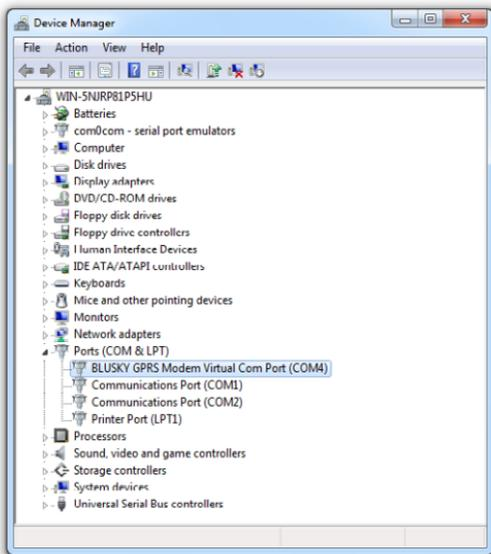

Figure 7
- **Local Configuration with Serial Communication:** First of all, serial option should be checked. After USB cable is connected and modem usb driver is installed, proper COM port should be chosen. To choose proper COM port, please click on See COM Ports button and view loaded COM ports on your computer. Available COM ports can be seen under Ports (COM & LPT) title of Device Manager window as shown in Figure 7.